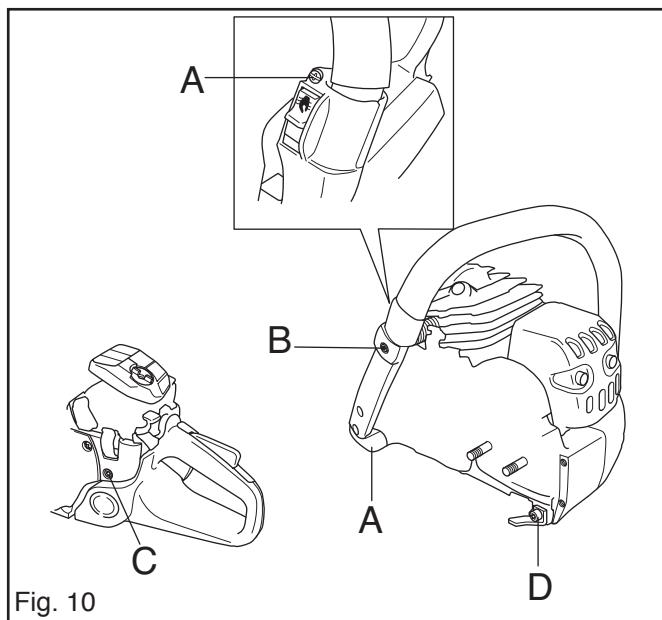

Fig. 10
2. Remove the bolt for the rear damper element (D) and upper AV spring (B). Remove the bolt on the front AV element (D). See fig. 10.
3. Dismantle the screw on the heater switch (A). See fig. 10.